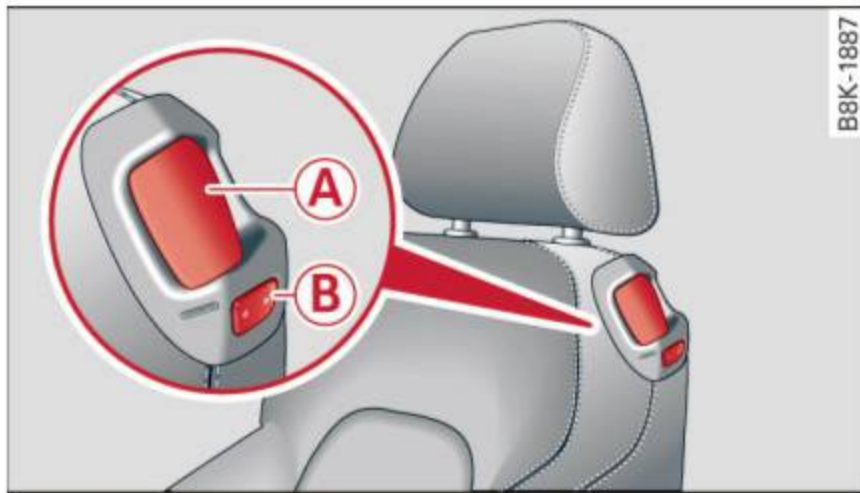
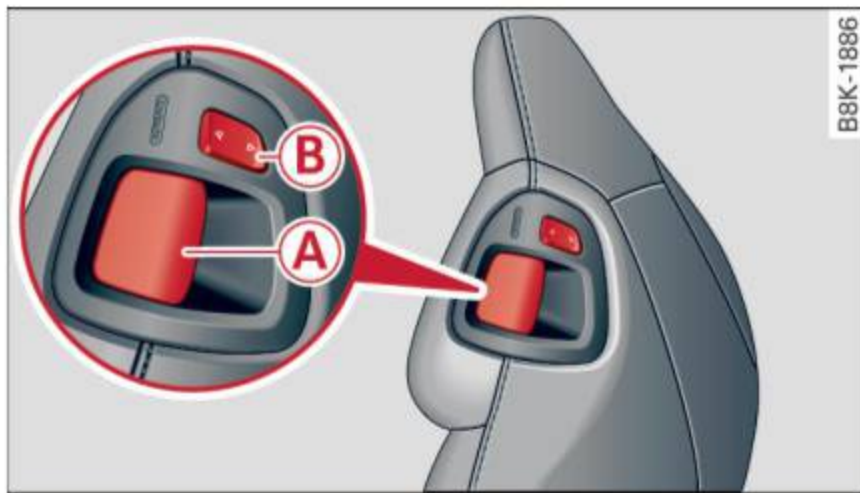

Fig. 52 Comfort seats*: easy entry controls
Fig. 53 Sport seats*: easy entry controls
- ▶ To fold the front seat backrests forward/back, lift the latch (A) ⇒ *fig. 52* or ⇒ *fig. 53* and fold the backrest forward.
- ▶ To move the front seats forward/back, press and hold the (B) button until the seat has reached the desired position.